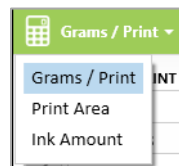

Figure 37 Estimating ink consumption by Actual weight of ink on garment
- First select the “Grams / Print” mode from the mode drop down menu. (Figure 37)